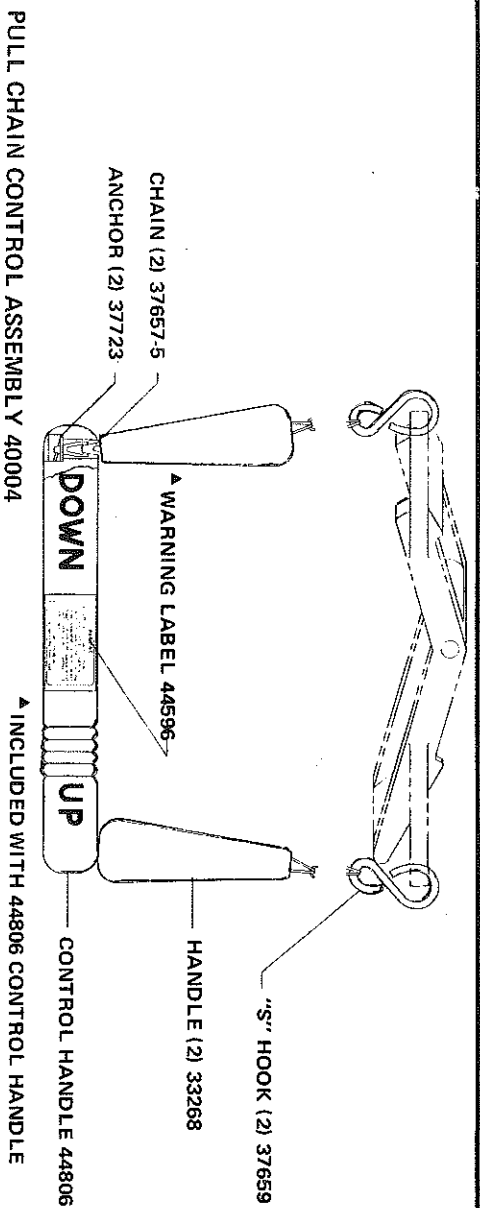

FIGURE 23
- On pull chain control models, control chains must be installed as follows: Facing air inlet end of hoist (with hoist in upright position), chain attached to "UP" end of control handle must be attached to right end of control arm. Chain attached to "DOWN" end of control handle must be attached to left end of control arm — see figure 23.